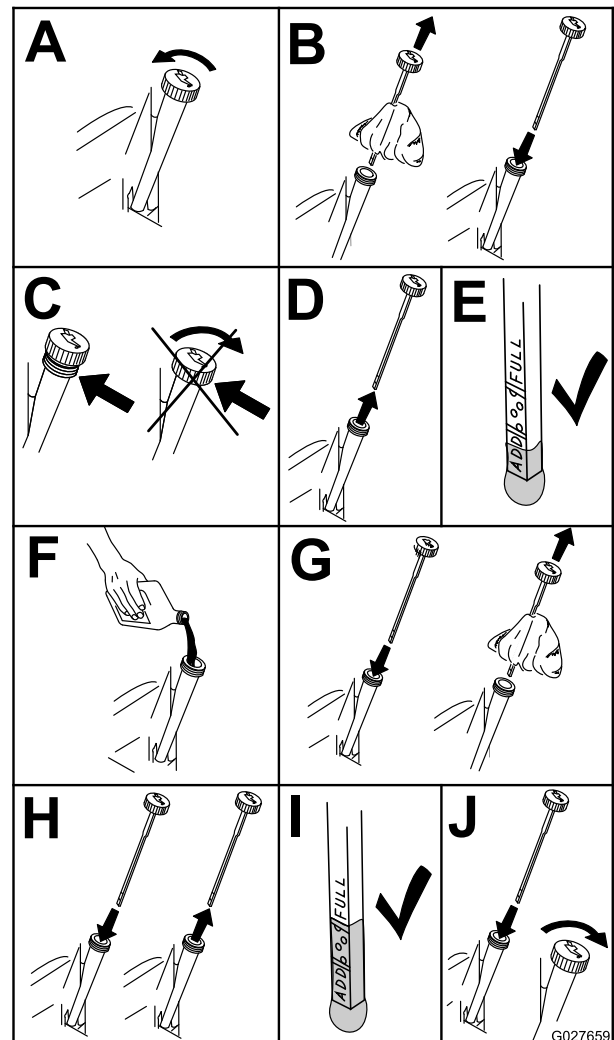

Figure 46
2. Stop the engine, remove the key, and wait for all moving parts to stop before leaving the operating position (Figure 46).